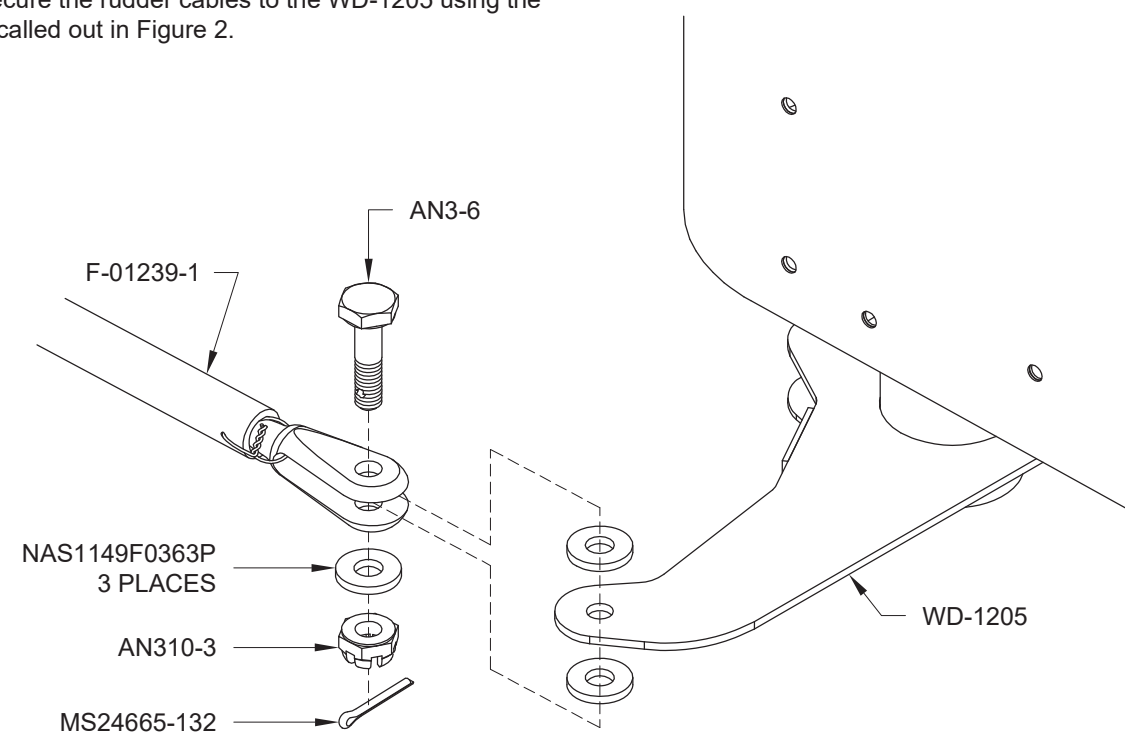

**FIGURE 1: SEPARATING
Step 1: Separate the F-01258-1 into individual parts by removing the hatched areas shown in Figure 1.